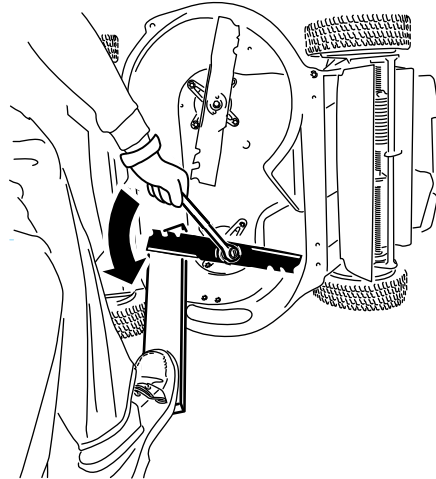

Figure 34
1. Use a block of wood to hold each blade steady and turn the blade bolt counterclockwise as shown in Figure 34.